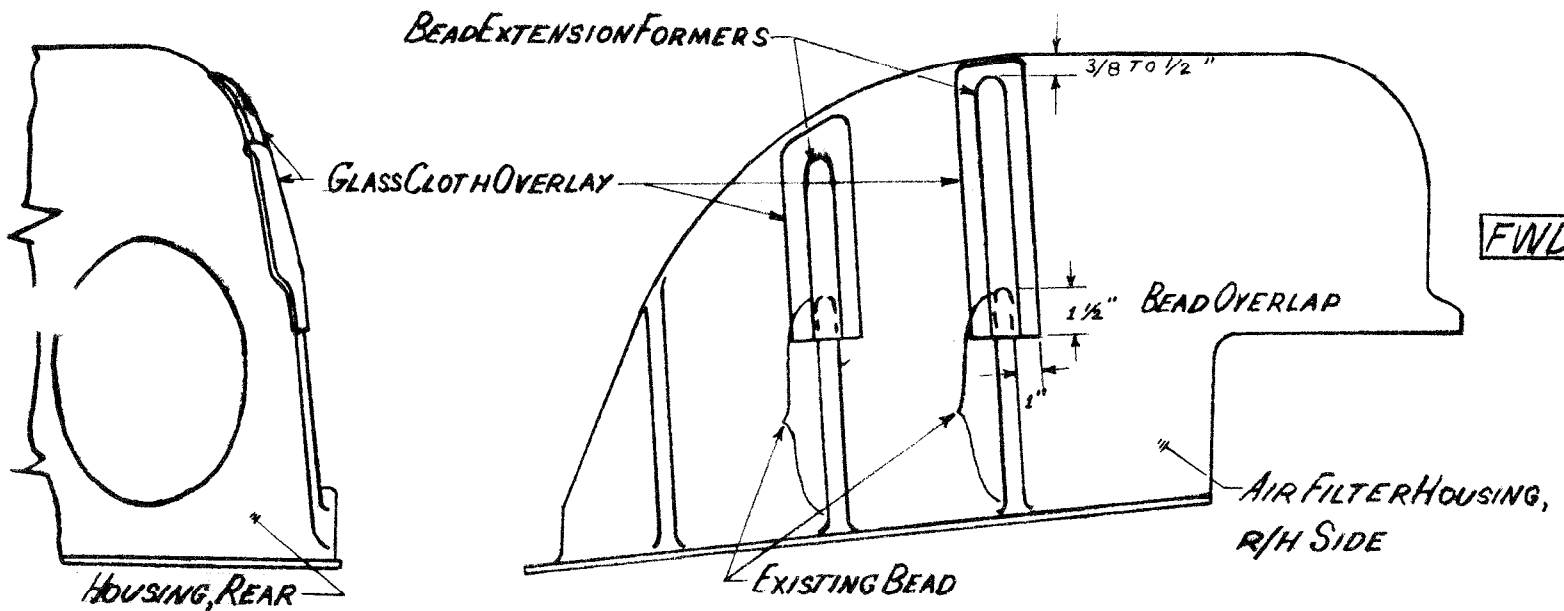

FIGURE 1.
- c. Make from balsa wood or rolled fiberglass cloth, two formers approximate size of existing beads, cut to proper length. (See Figure 1)